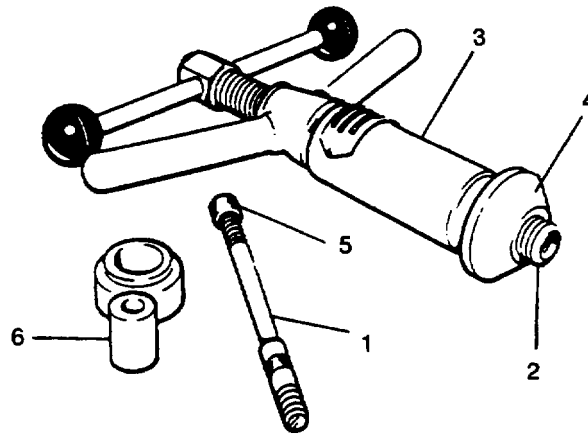

FIGURE 3-29. Valve Guide Tool and Depth Stop
- a. Using valve guide replacement tool (317-50033). Refer to FIGURE 3-29; remove each valve guide as follows:
- (1) Place cylinder head on its side in a soft-jawed vice.
- (2) Screw mandrel (1) into tool (2).
- (3) Place sleeve (3) onto tool.
- (4) Fit bevelled adapter (4) into sleeve (3) and locate bevel into valve seat.
- (5) Locate mandrel (1) through guide from valve seat side.
- (6) Screw small threaded sleeve (5) onto mandrel (1) at valve rocker side.
- (7) Holding sliding handle firmly to prevent rotation, turn double handled lever clockwise until guide is withdrawn through head.
- (8) If it is found difficult to start moving guides a sharp tap with a copper hammer should break seal.
- c. Using valve guide removal and replacement tool (317-50033). Refer to FIGURE 3-29; install each valve guide.
- (1) Install mandrel (1) into valve guide hole from valve rocker end.
- (2) Place valve guide over mandrel (1) with counterbored end of guide facing towards valve seats.
- (3) Place depth stop (317-50108) (6) over mandrel (1) and screw on threaded sleeve (5).
- (4) Fit tool complete with bevelled adapter (4) onto mandrel (1) at valve seat side.
- (5) Hold sliding handle firmly to prevent rotating. Turn double handled lever clockwise until depth stop prevents further movement. At this point guide will protrude 0.463 to 0.482 in. (11.75 to 12.25 mm) above cylinder head.